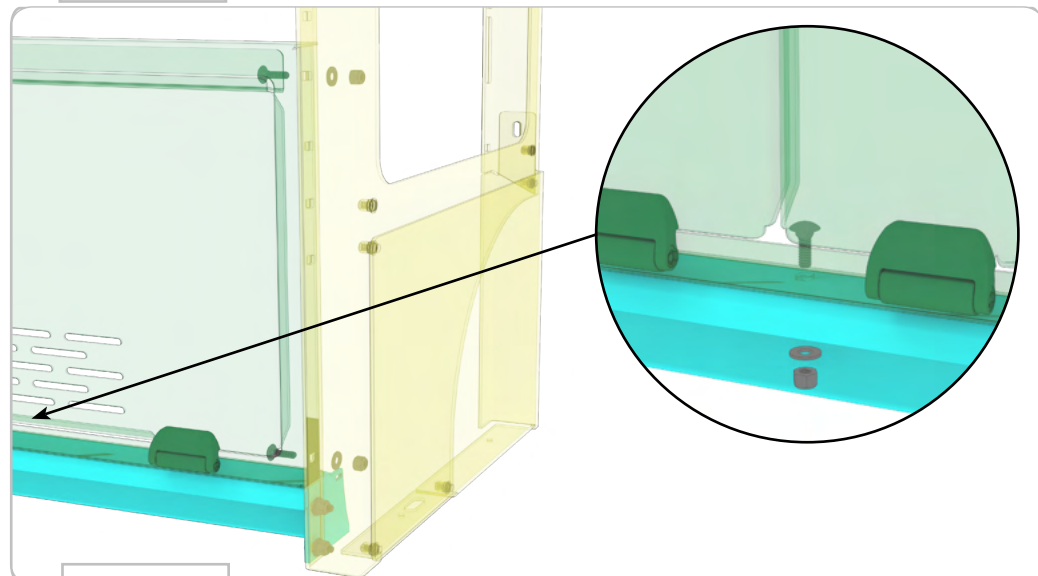

FIG 46
**3.6 Attach Lower Doors to Left and Right Side Cabinet Ends:** Attach your selection of **Lower Doors** to the **Left and Right Side Cabinet Ends** using (4) 1/4-20 Square Neck Carriage Bolts, Flat Washers and Nylon Locknuts (FIG 46). There's a final mounting location in the middle of the unit that will take (1) 1/4-20 x 0.75 Square Neck Carriage Bolt, Flat Washer and Nylon Locknut to finish out this step (FIG 46).